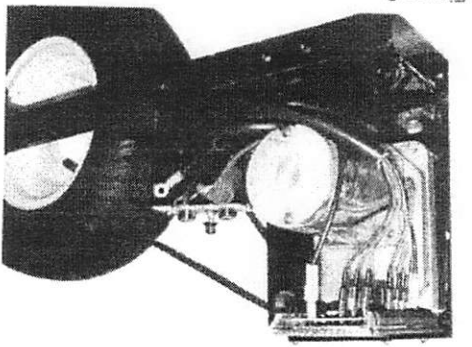

Figure 2
2. Lift the hood straight up and remove it. (See Figure 2).
3. With hood removed, remove the control box and cable from the battery area (See Figure 2). Take care not to disconnect any wires.
7. With hood removed, remove the control box and cable from the battery area (See Figure 2). Take care not to disconnect any wires.